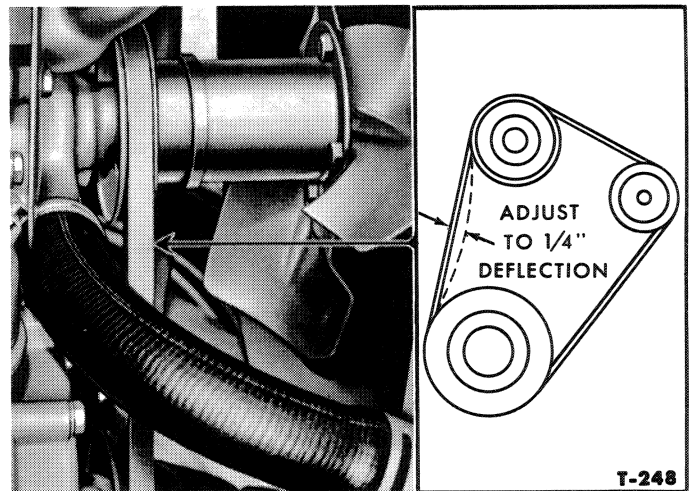

Figure 7—Fan Belt Adjustment
3. Install the fan and generator belt and adjust the belt tension to $\frac{1}{4}$ " deflection under 15-20 lbs. pressure, Figure 7.
2. Move the generator either away or toward the engine, until $\frac{1}{4}$ " belt deflection is obtained under 15-20 lbs. pressure, Figure 7.